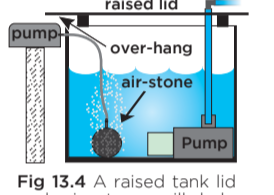

Fig 13.4 A raised tank lid and air stone will help prevent the growth of algae, fungus and slimes and the UV deterioration of vital organics in the nutrient.
- Cover the nutrient reservoir! The growth of algae, slimes and pathogens is accelerated in nutrient solutions that are exposed to light. Further, chelated trace elements (and many organic additives) can decompose when exposed to UV light. This causes them to become unavailable for root up-take. Light exposure can be minimized by placing a lid on the nutrient reservoir. Ensure to have it in a raised position so that air can freely enter and exit (Fig 13.4). Also, cover other regions of the system where nutrient is exposed to direct light e.g. base of stems and the top of open trays.